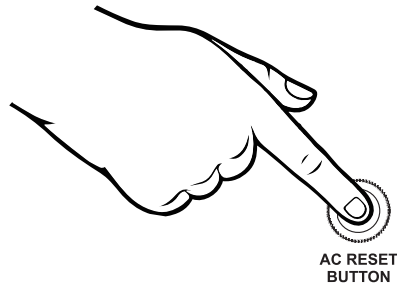

Figure 11: Press in reset breaker
3. Press in the reset breaker to reset it (see Figure 11).